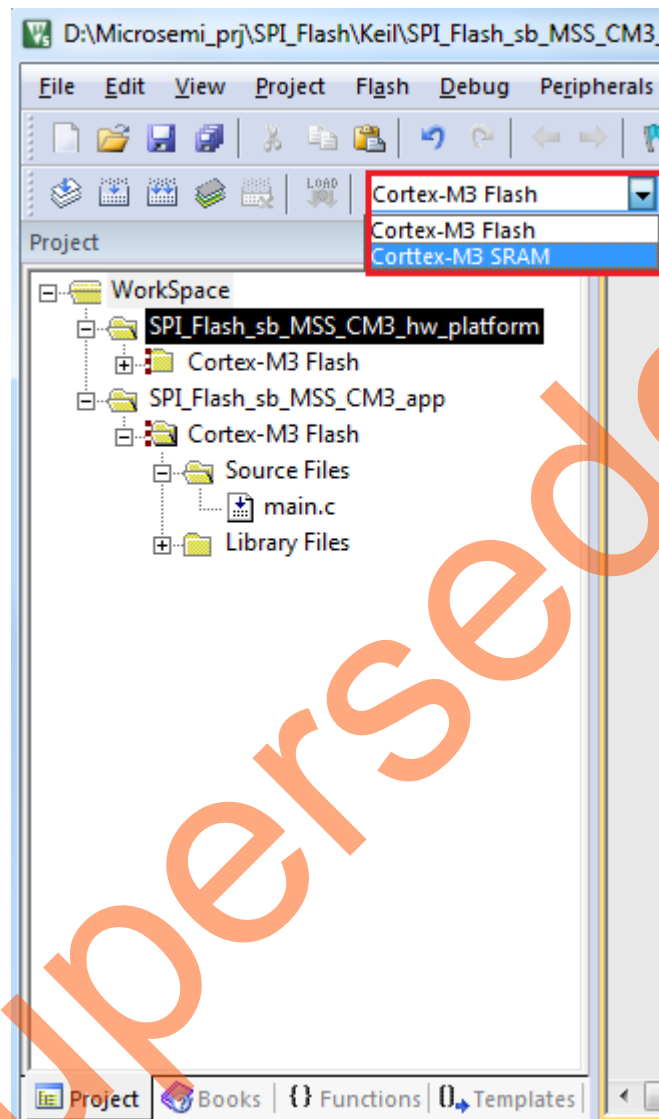

Figure 22 • Cortex-M3_SRAM Settings
8. Change **SPI_Flash_sb_MSS_CM3_hw_platform** debug mode to **Cortex-M3_SRAM** by selecting **Cortex-M3_SRAM** from the drop-down list, as shown in Figure 22.